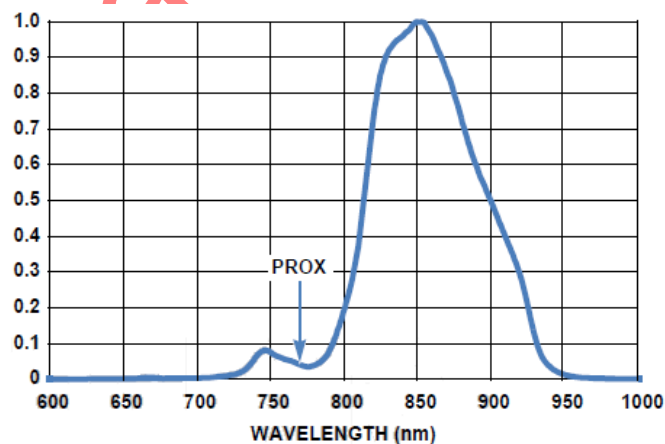

Figure 8 Prox Sensitivity vs Wavelength
For proximity sensor (PROX) data conversions, the built-in current-driver pulses an internal infrared Optical Device (OD) for 100μs. The reflected infrared light is measured and digitized by an 8-bit PROX ADC. The light-wavelength response of the PROX appears as shown in Figure 8.